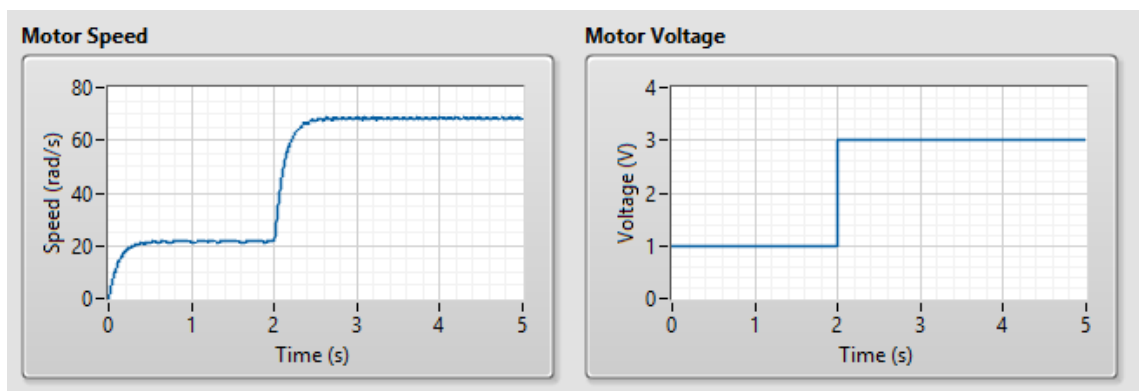

Figure 5: Quanser Controls Board DC Motor bump test response
- Run the VI to apply a 2 V step to the servo. The response should be similar to that shown in Figure 5.